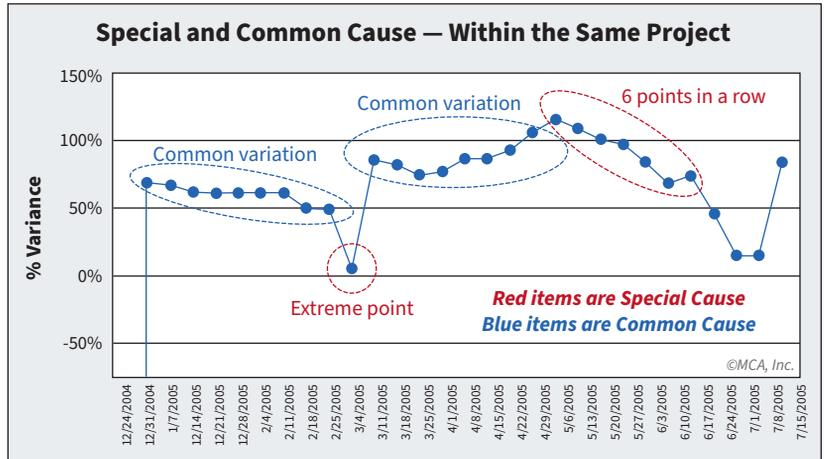

Fig. 2. Common and special cause variations can both occur on the same project.
- Common causes of variation (the constant noise and minor ups and downs in productivity) should also be studied — but with a different tool for categorizing them. Otherwise, you'll be spending a lot of time chasing your tail trying to fix the day-to-day impacts to productivity that are completely normal. This can cause tampering and actually make things worse (see Fig. 2 on page 26).